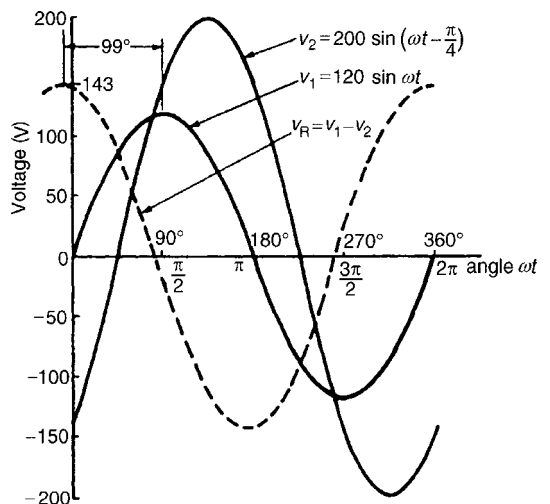

Figure 14.13
- (a) $v_1 = 120 \sin \omega t$ and $v_2 = 200 \sin(\omega t - \pi/4)$ are shown plotted in Fig. 14.13 Care must be taken when subtracting values of ordinates especially when at least one of the ordinates is negative. For example
The resultant waveform, $v_R = v_1 - v_2$, is shown by the broken line in Fig. 14.13 The maximum